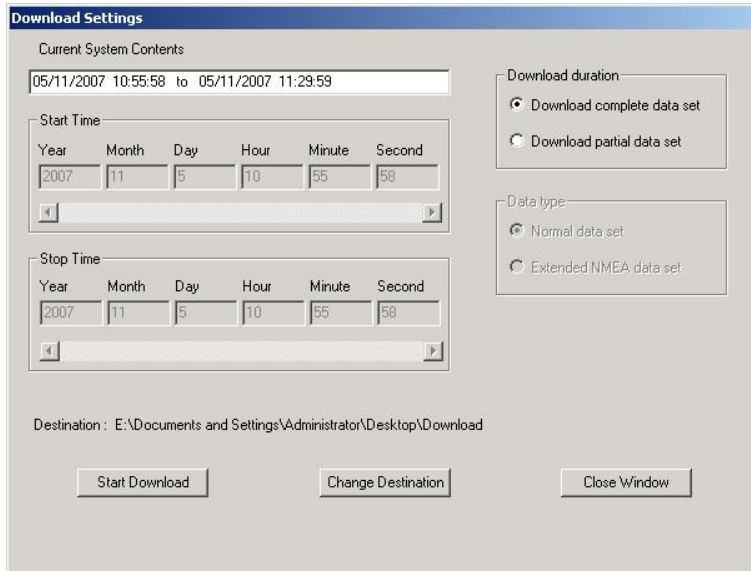

Figure 2-5 - Download Settings Window
3. Once prompted with the 'Download Settings' window (see *Figure 2-5 - Download Settings Window*), choose from the following available settings:
A 'complete' download is the process of downloading a full 12-hour data set from the DMM. As a user may want only a 'partial' download, a 'Download partial data set' option is available. Select either 'Download complete data set' or 'Download partial data set' in the 'Download Settings' window (see *Figure 2-5 - Download Settings Window*) to download the desired data set.